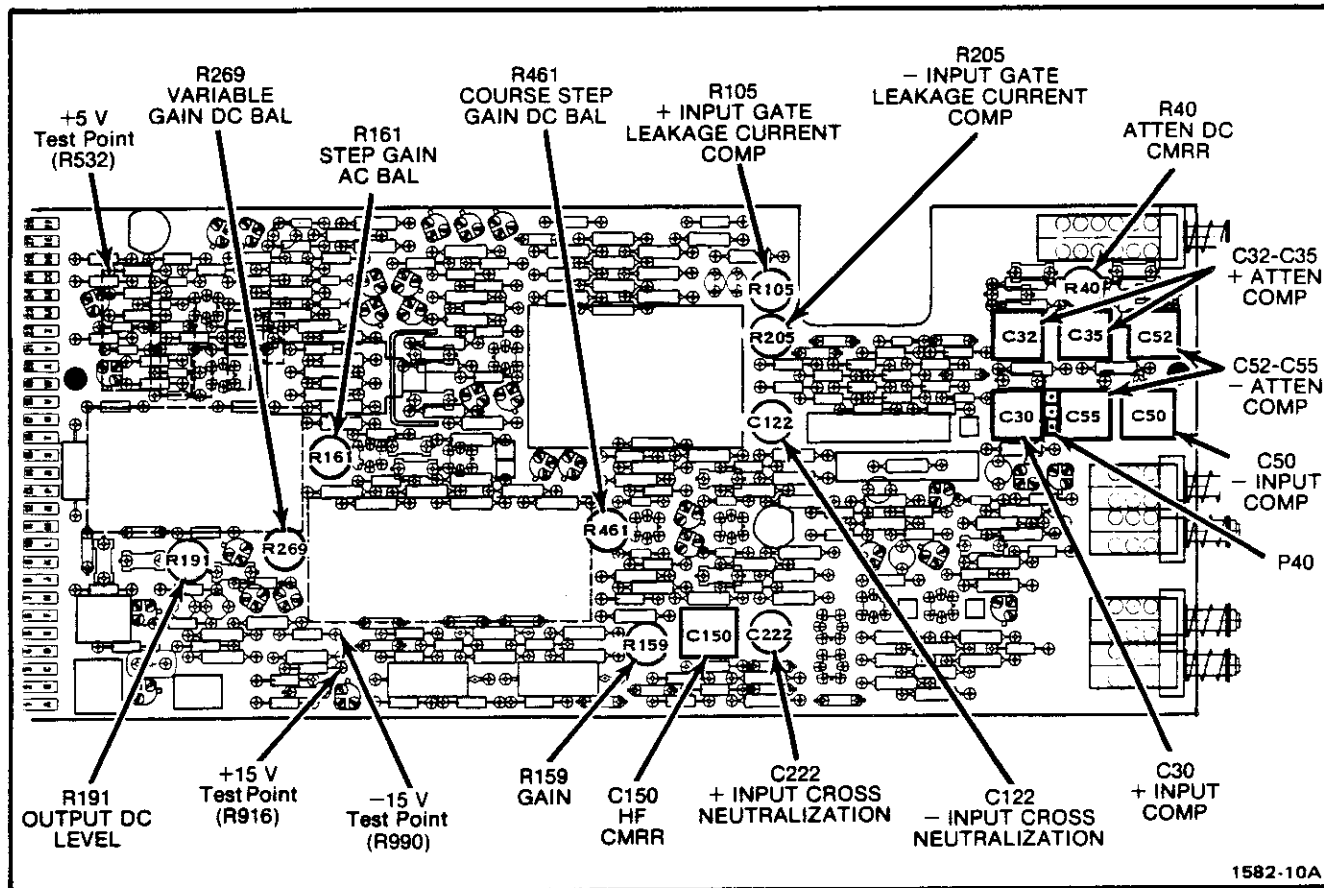

Fig. 3-1. Location of power supply test points, and all adjustments.
a. Connect the digital voltmeter between the +15 V test point on the Main circuit board, and chassis ground. See Fig. 3-1 for voltage test point location.
a. Connect the digital voltmeter between the -15 V test point on the Main circuit board, and chassis ground. See Fig. 3-1 for voltage test point location.
a. Connect the digital voltmeter between the +5 V test point on the Main circuit board, and chassis ground. See Fig. 3-1 for voltage test point location.
c. Adjust—Step Gain AC Bal, R161, for minimum trace shift while switching the AM 502 GAIN switch between the 100 and 100K positions. See Fig. 3-1 for adjustment location.
c. Adjust—Variable Gain DC Bal, R269, for minimum trace shift while rotating the AM 502 CAL control from fully clockwise to fully counterclockwise position. See Fig. 3-1 for adjustment location. Return control to the fully clockwise position and note the position of the trace.
c. Adjust—Coarse Step Gain DC Bal, R461, to return trace to the center of the graticule. See Fig. 3-1 for adjustment location.
g. Adjust— +Input Comp, C30, for best flat top (minimum roll-off or overshoot on upper front corner) on displayed waveform. See Fig. 3-1 for adjustment location.